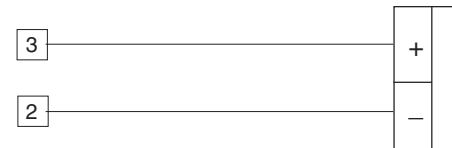

Fig. 5.2
- Connect the instrument to the calibrator as shown in Fig. 5.2.
- Set 20 mA, 60 mV, 5 V or 10 V on the calibrator (see Fig. 5.2).